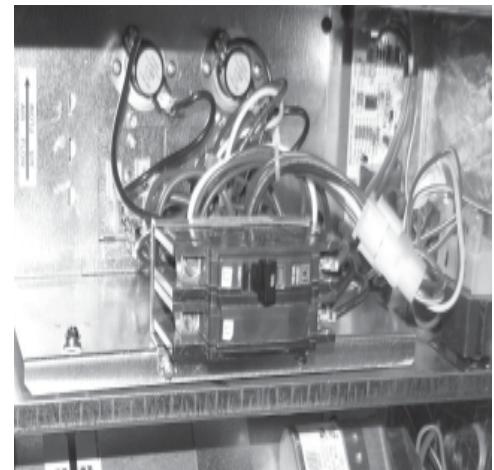

FIG. 1
4. Slide heater assembly into blower section through the access opening (mounting position is important, check the label for correct position). Secure heater into place with screws from cover plate (see fig. 1).
4. Remove the multi-pin connector with the jumper wire and discard. Connect the heater 6-pin socket connector to the corresponding plug in the air handler (see fig 1).